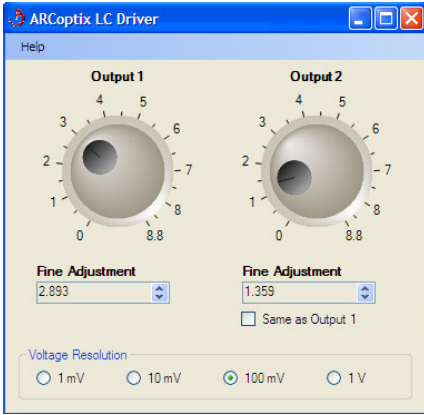

Figure 6: LC Driver with two independent outputs that are computer controlled via USB.
For some applications a homogenous phase distribution is needed, the polarization converter alone cannot be used. Thanks to an integrated variable phase retarder this phase step can be compensated. The variable phase retarder is a transparent cell providing a tunable phase delay between the two halves of the beam passing through it. It is integrated in the housing in the front of the polarization rotator cell as seen in Fig. 6. The active area covers half the useful aperture as illustrated in Fig 3. With a thickness of  $9\mu\text{m}$  and filled with the liquid crystal with a birefringence of  $\Delta n=0.14$  the cell gives a maximum retardation of  $1260\text{nm}$  at room temperature. If voltage is applied, the retardation can be reduced continuously. (see Annex).
- 1) Use the Arcoptix LC Driver that has two independent outputs that are computer controlled via USB and optimized for liquid crystal device driving (see figure 6).